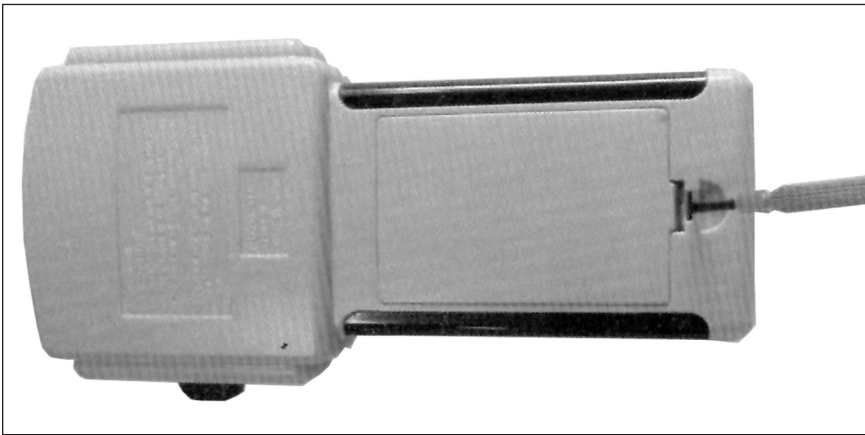

Figure 4. Opening and closing the battery compartment
**U**se a flathead screw driver to pry up the tab on the battery compartment hatch and lift the hatch to open battery compartment (as shown in Figure 4). Insert three AAA batteries orientating the +/- as shown in the bottom of the battery compartment. Replace the battery door and snap closed.